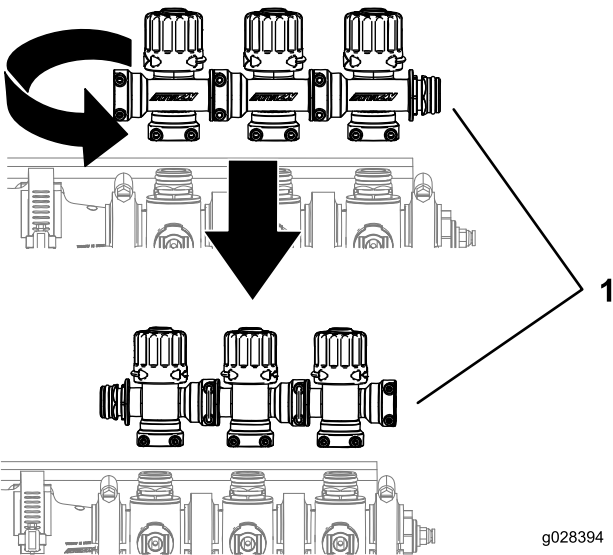

Figure 5
4. Rotate the bypass adjustment assembly 180 degrees as shown in Figure 5.